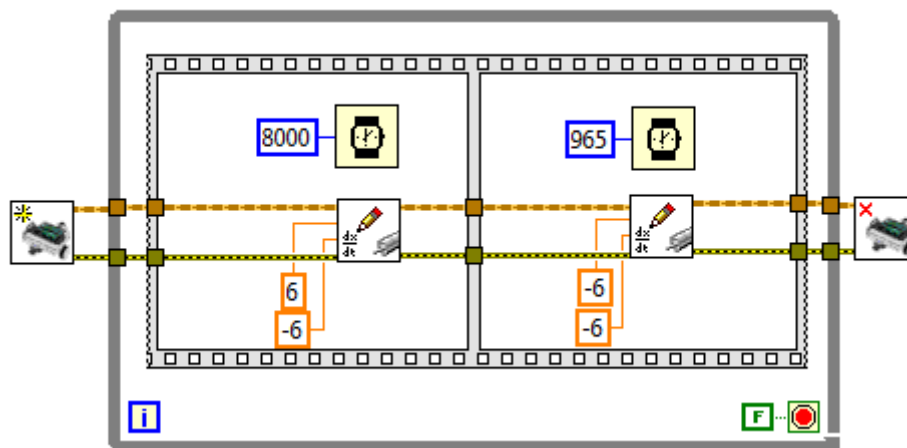

Figure 2.9
**Step 8:** Connect the wires as shown in figure 2.9